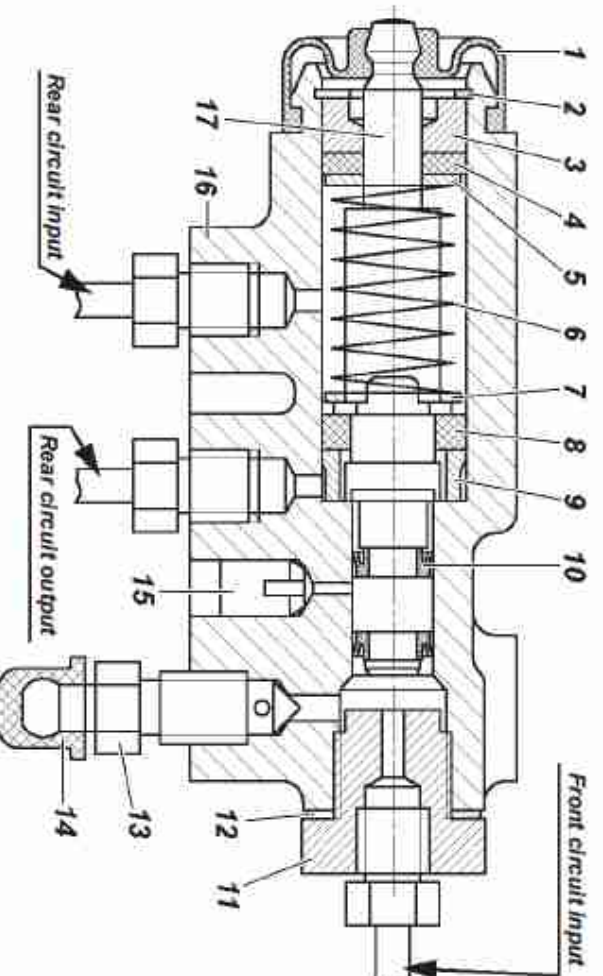

Fig. 9.30. Proportioning Valve:
Proportioning Valve. Non-ABS vehicles are equipped with the mechanical proportioning valve, which affects the rear brakes (Fig. 9.30), ensures the optimal distribution of braking forces between the axle shafts and prevents the rear wheels from blocking earlier than the front wheels. When servicing the vehicle check the proportioning valve. Clean it from dirt and check its attachment. Make sure by visual inspection that the valve and its drive parts are not damaged, the brake fluid does not leak, and the coupling of the pillar with the flexible arm or the bracket on the rear axle has no play.
When pressing the brake pedal proportioning valve, piston 17 (Fig. 9.30) shall move out from the housing for 1.7–2.3 mm. If the piston has
3. Screw bolt 4 (Fig. 9.31) until it touches piston tail 17 (see Fig. 9.30) of the valve.